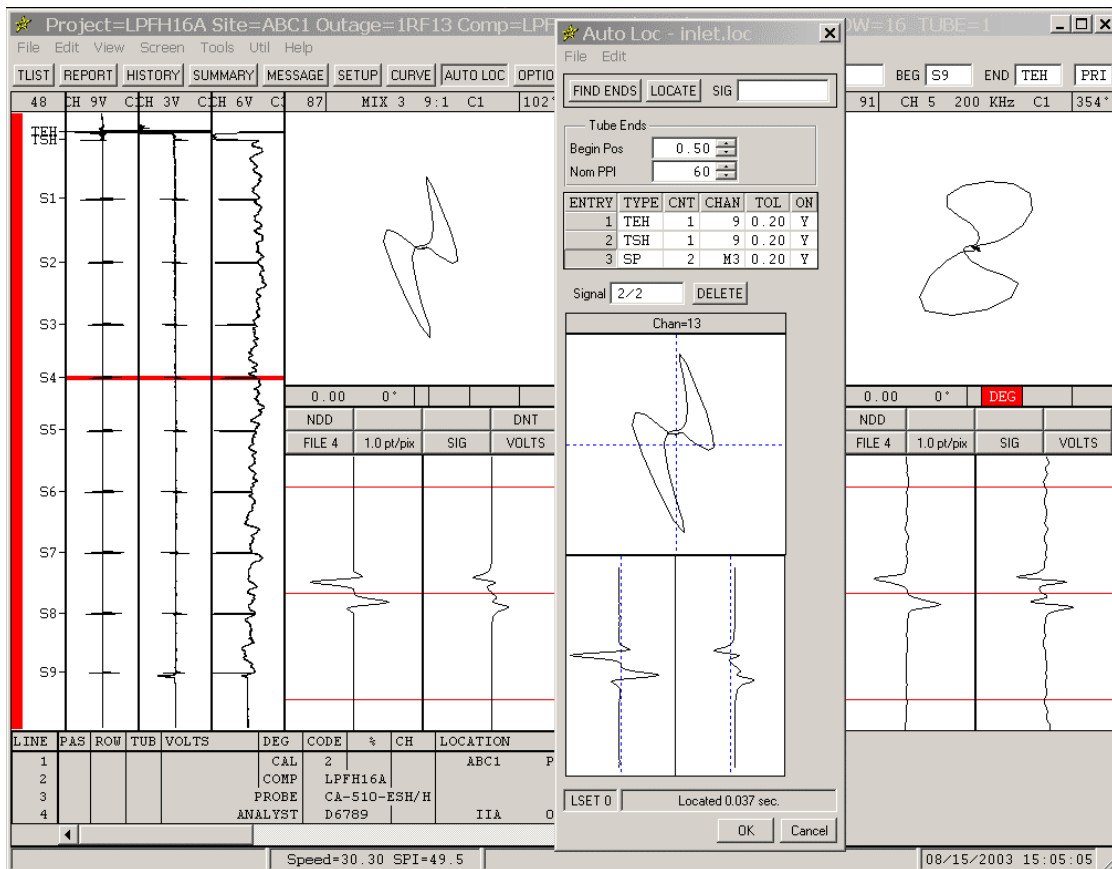

Figure 1-30. Auto-locate - Training More Tube Support Structures
STEP 23: Click the **LOCATE** button. The tube end, the top-of-tubesheet, and all tube supports should now appear in the *Landmark* strip at the correct locations in the data file as shown in Figure 1-30.